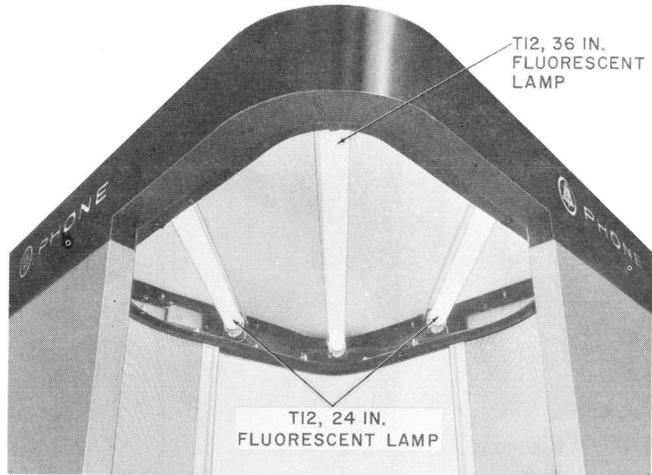

Fig. 6—Ceiling Area of Booth
**2.08** The booth is illuminated by one T12, 36-inch, and two T12, 24-inch high output fluorescent lamps (Fig. 6).